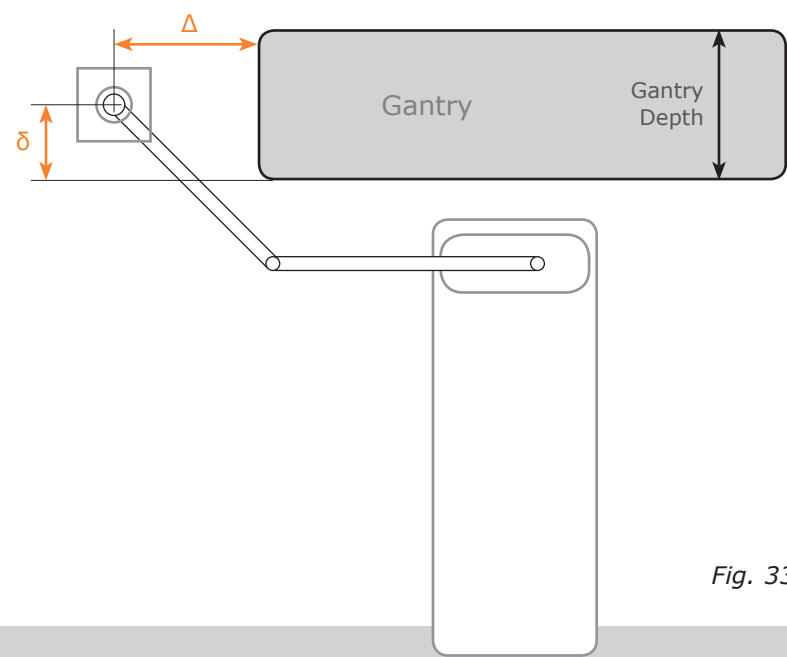

Fig. 33
12.3.1 The recommended vertical distance (δ) with respect to the gantry is centered on the gantry depth. Placement is shown in Fig. 33.
12.3.2 The recommended horizontal distance (Δ) with respect to the gantry is to be offset to either side of the gantry by an amount called Δ . This dimension is shown in Fig. 33. The value of Δ is based on the gantry depth, and is calculated to maximize the swing of the Portegra2 arm. Keeping the Portegra2 Δ cm / inches away from the gantry helps to protect both the Portegra2 and gantry, and allows for unencumbered pivot of the gantry. Please see Fig. 33. Chart/ Fig. 34 shows the Δ values for various gantry depths.